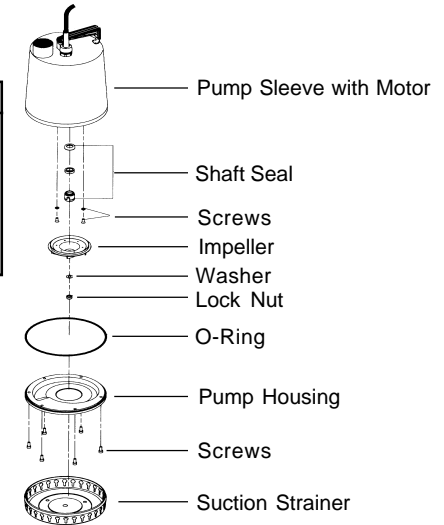

Fig. 2 AP 12
AP 12 — (Refer to Fig.2 Pg.7) Carefully loosen the strainer by inserting a screwdriver through one of the holes of the strainer and press it downwards (towards bottom). Repeat the procedure until the strainer is free and can be removed.
6. **AP 12** — (Refer to Fig.2) Unscrew the six screws close to the edge of the pump sleeve and lift the pump housing out of the pump sleeve. Clean the pump housing, the pump, and the impeller. Check to make sure the impeller can rotate freely. If not: